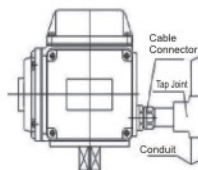

Fig.1
- ◆ To follow the figure 1 when the electric conduit is required.